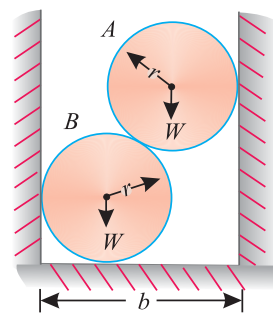

Fig. 5.33.
3. Two smooth spheres of weight  $W$  and radius  $r$  each are in equilibrium in a horizontal channel of  $A$  and  $B$  vertical sides as shown in Fig. 5.33.